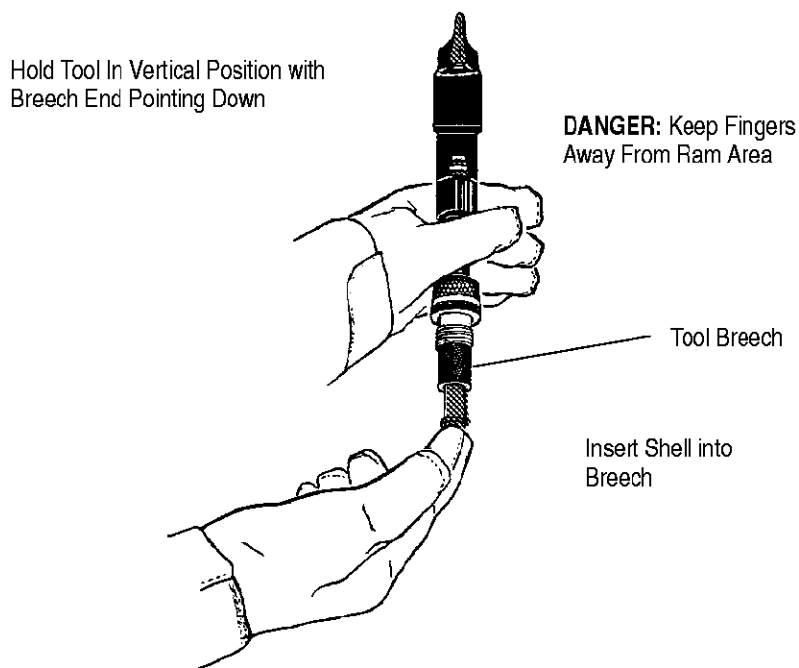

Figure 18
7. Insert shell into tool breech **while holding tool in vertical position with ram fully retracted**. See Figure 18. Note that the supporting ribs on the shell will retain the ram in its retracted position. **KEEP FINGERS AWAY FROM THE RAM AREA.**